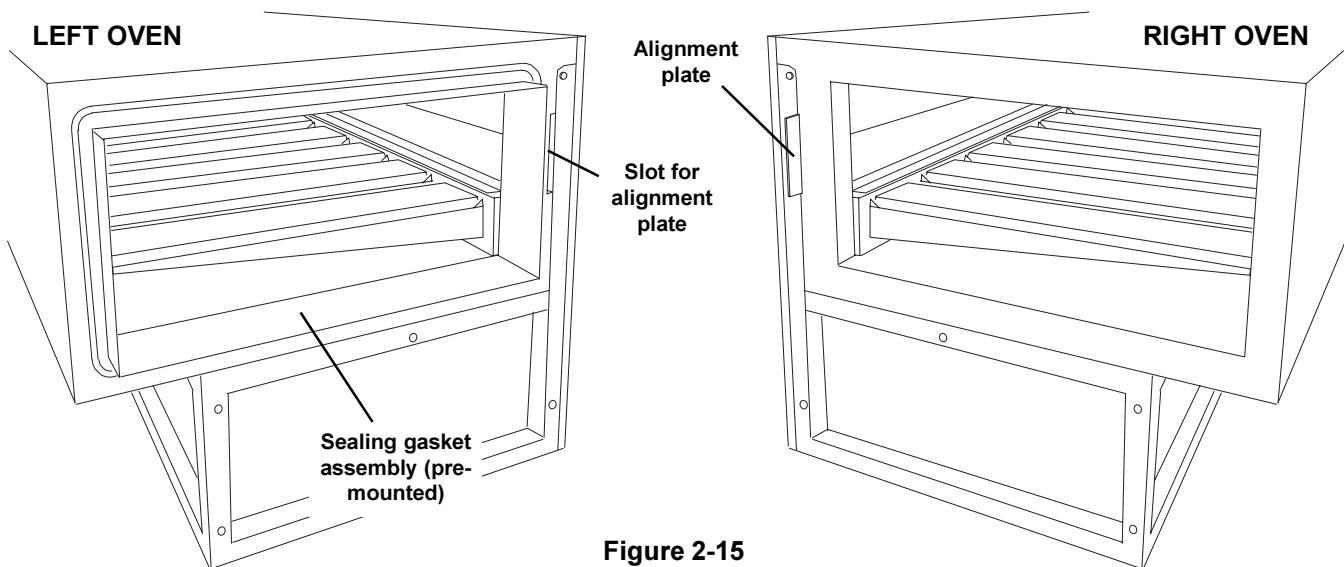

Figure 2-15
1. Determine the proper position of the ovens by referring to Figure 2-15. Then, move the ovens to their approximate final locations.
NOTE: The Sealing Gasket Assembly is shown attached to the left oven in Figure 2-15, but may be pre-mounted to EITHER of the two ovens.